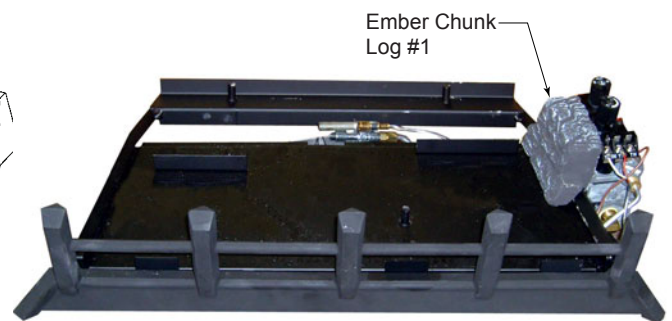

Figure 20 - Place Ember Chunk Log #1
1. Place the #1 log (the "chunk") on the grate bar right side of the burner adjacent to the controls. *Figure 20*